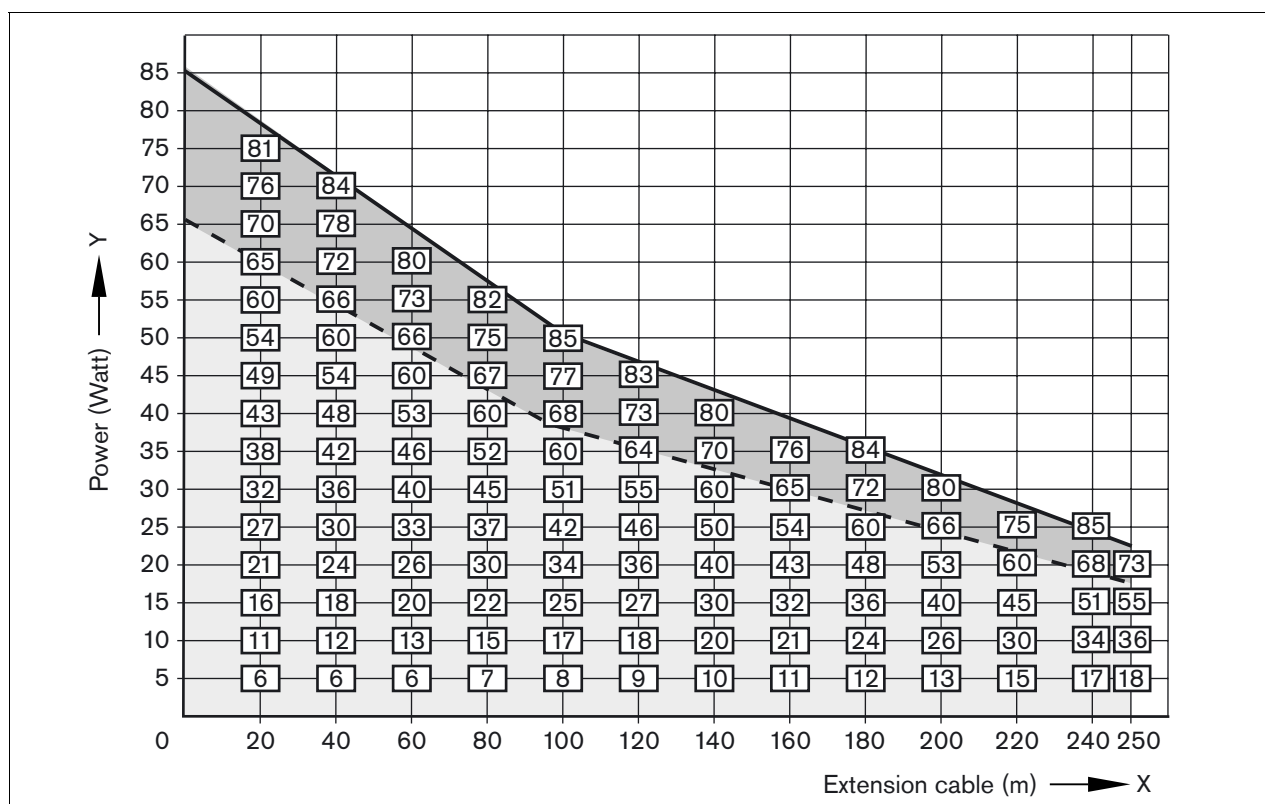

figure 26.3: Cable correction graph
The power available from an DCN socket is not only influenced by the type and number of units connected to the socket (see sections 26.5.2 and 26.5.3), but also by the sum of the lengths of the extension cables connected to the socket. Using the cable correction graph (see figure 26.3), it is possible to correct the available power for extension cable length. For each DCN socket:
- 3 Locate the value obtained in step 1 on the Y axis of the graph (see figure 26.3) and the value obtained in step 2 on the X axis. Using standard graph reading procedures, join the two together to obtain the power consumption corrected for extension cable length. These are shown within the squares.